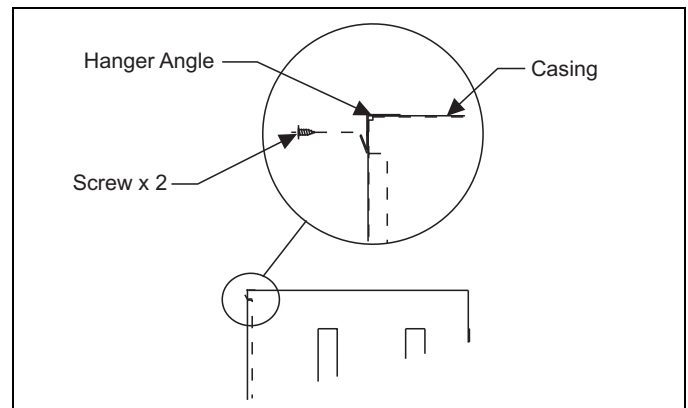

FIGURE 10: Hanger Angle Attachment
6. Remove two (2) screws that are on the front of the unit at the top. Obtain front panel hanger angle from the upflow kit 3500-7211*. Secure the hanger angle with two (2) screws removed from the furnace casing See Figure 10.